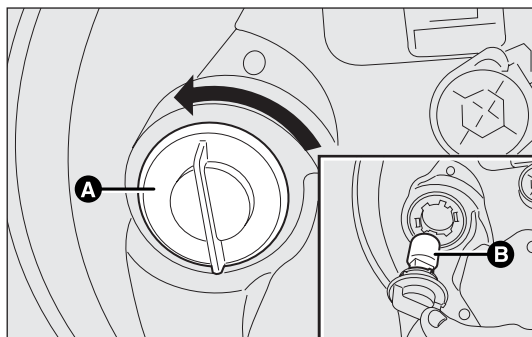

fig. 167
- ☐ turn the bulb holder A-fig. 167 anti-clockwise using the tab and pull it out;